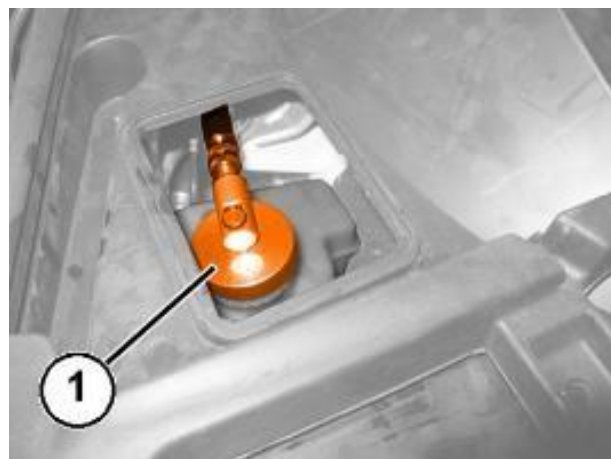

Figure 75 – Bleeding Equipment
115. Connect the bleeding equipment (1) to the brake fluid reservoir and pressurize the system (Figure 75).